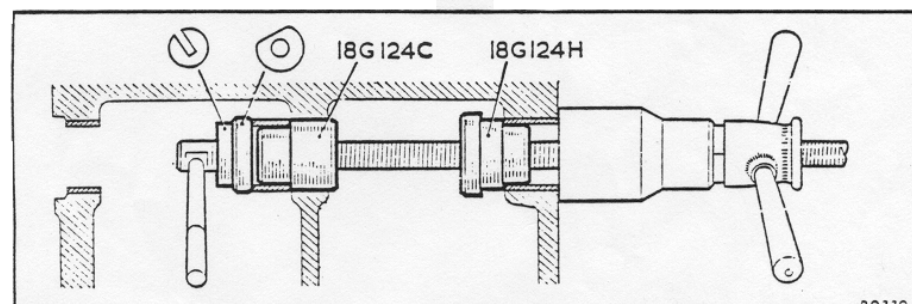

Fig. 6
6. Fit a new centre bearing liner, lining up the oil holes and using the tools shown in Fig. 6.